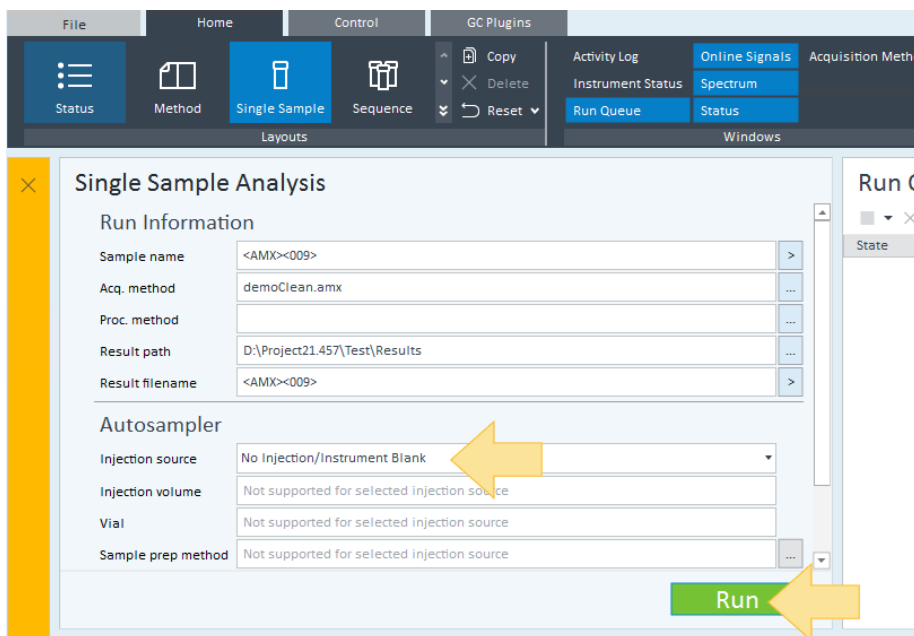

Figure 14. Single Sample window
- 8 For **Injection source**, select **No Injection/Instrument Blank**. This mode tells both the GC and the MS to run the specified method, even though no sample has been included. (See **Figure 14** on page 29.)